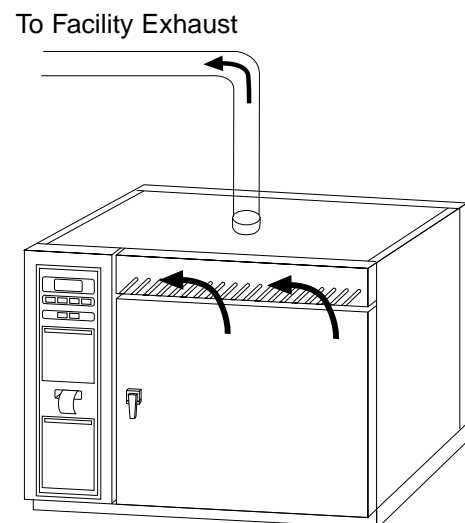

Figure 2:
- B. Typical 100% EO sterilizers (see figure 2)